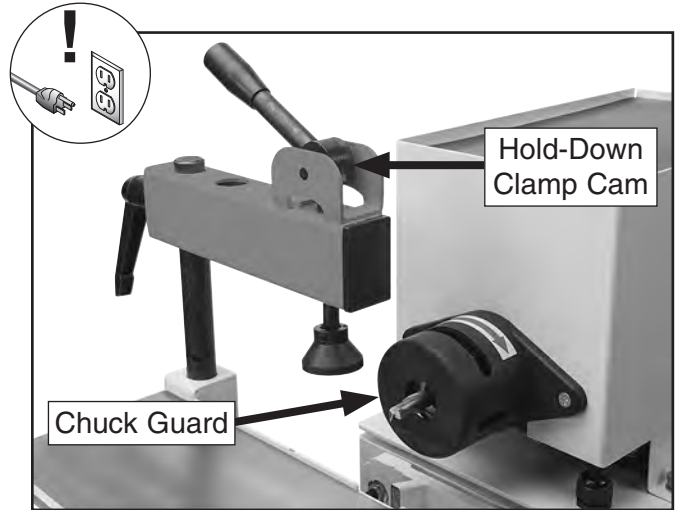

Figure 31. Lubrication points for hold-down clamp cam and chuck jaws.
Apply a drop of oil to the hold-down clamp cam (see **Figure 31**).
2. Remove chuck guard (see **Figure 31**).